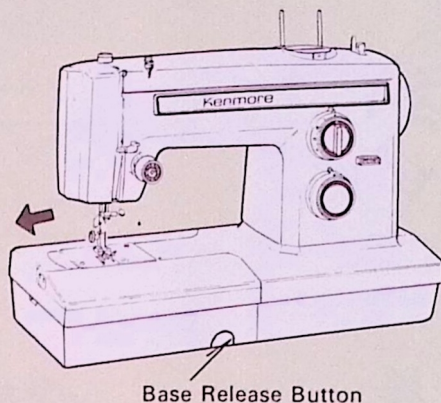

Fig. 1
1. Remove the base from the machine by pushing the release button and pulling the base to the left at the same time. (Fig. 1, 2)
2. To replace the base, simply slide it along the free arm to its original position. (Fig. 1)